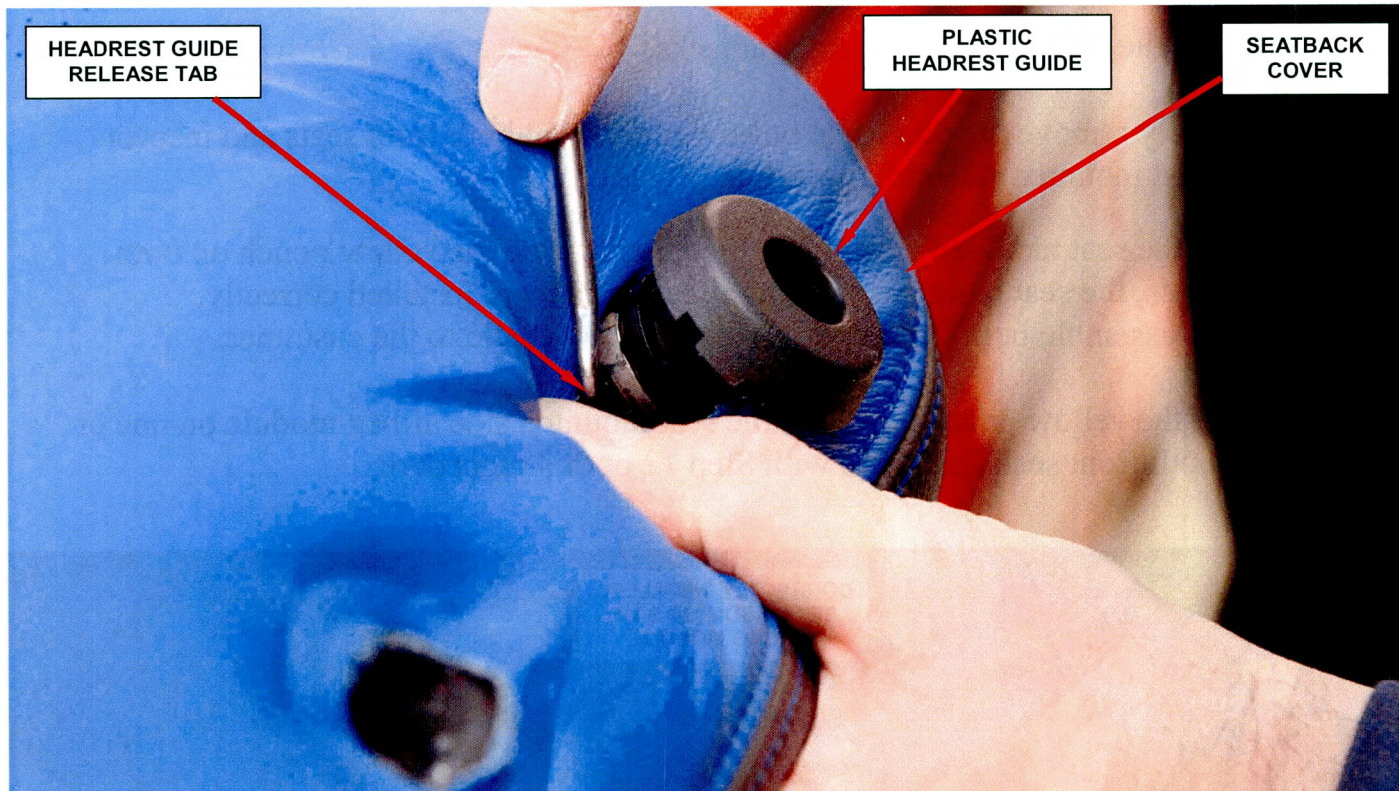

Figure 6 – Headrest Guide Release Tab
14. Remove and save the plastic headrest guides (Figure 6).
NOTE: Push down on the seat material around the headrest plastic guide to expose the headrest plastic guide release tab (Figure 6).